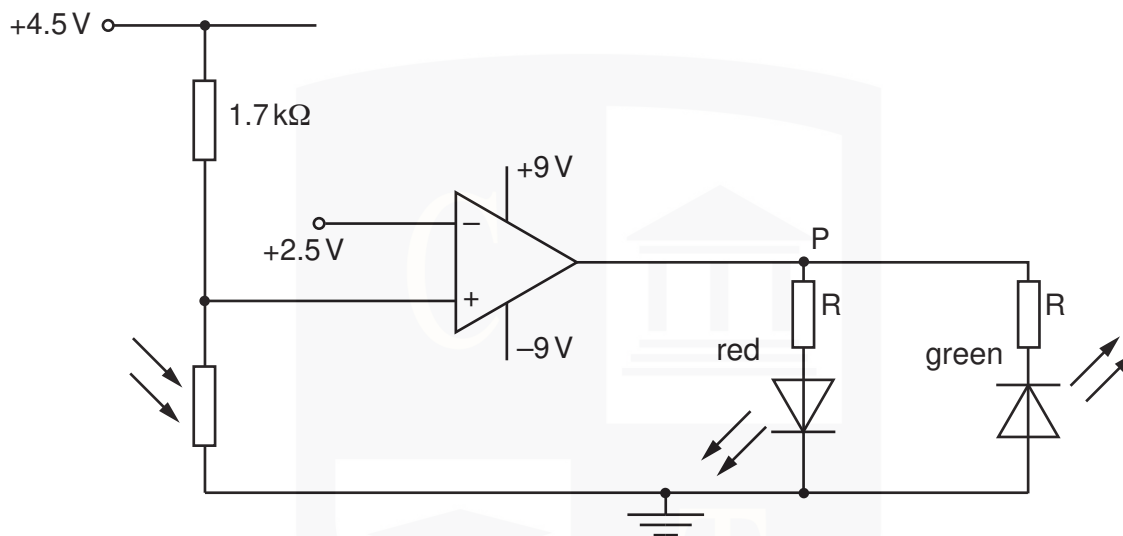

Fig. 9.1
- (b) An electronic light-meter is used to warn when light intensity becomes low. A light-dependent resistor is connected into the circuit of Fig. 9.1.
- (i) On Fig. 9.1, mark the polarity of the point P for the red LED to be emitting light. [1]